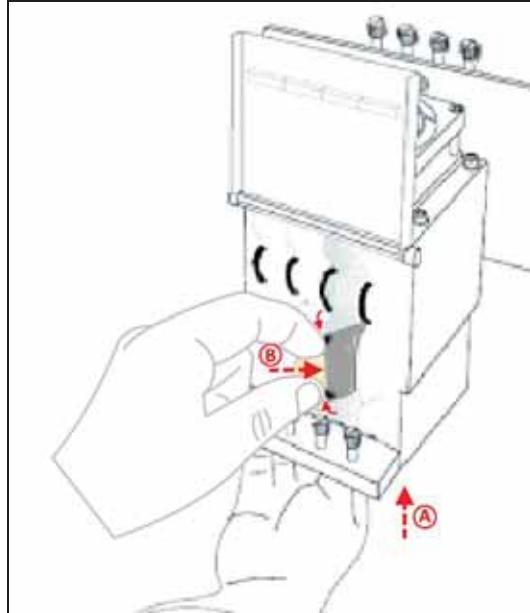

Figure 6-72: Inserting the print-head driver card into its socket
- b. Re-insert the print-head driver card into its socket (see figure 6-72 on page 48).